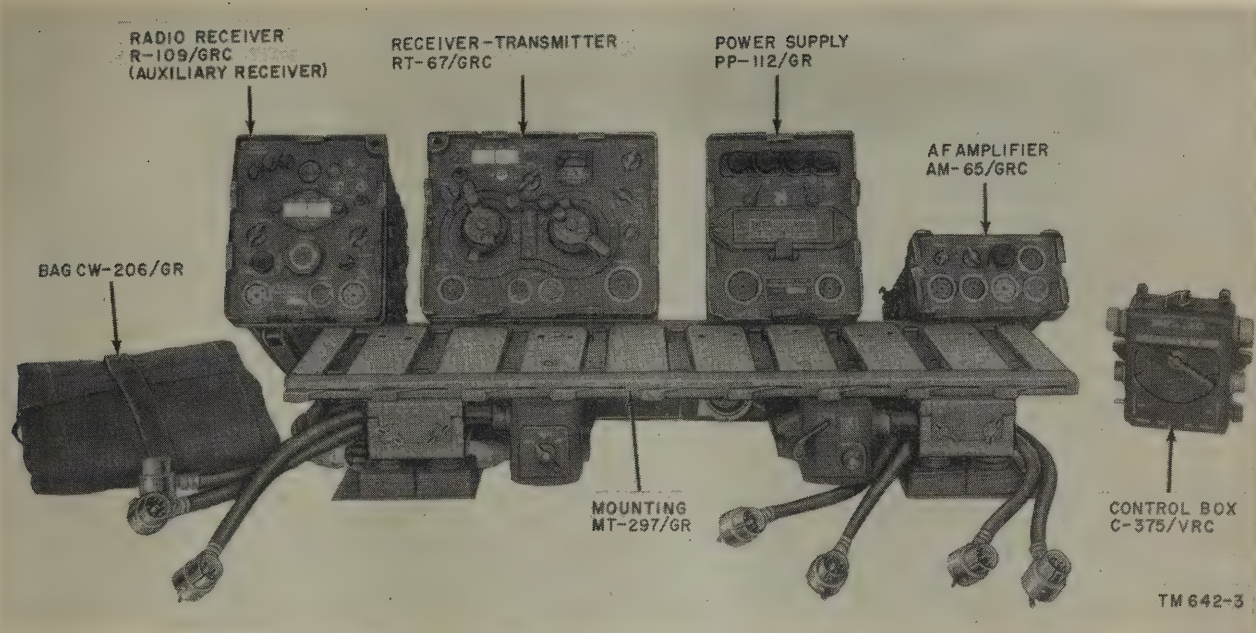

Figure 3. Components of Radio Set AN/VRC-21.
a. Introduction. The three radio sets have the following items in common: a receiver-transmitter, a receiver, an interphone amplifier, suitable power supplies, a mounting, a control unit, suitable antenna systems, and interconnecting cables. Radio Set AN/VRC-20 (fig. 3) described in *b* below is typical of all the sets discussed in this manual. The nomenclature outlined in paragraph 2, the table of components (par. 6), and figure 27 all indicate the differences between the three radio sets.